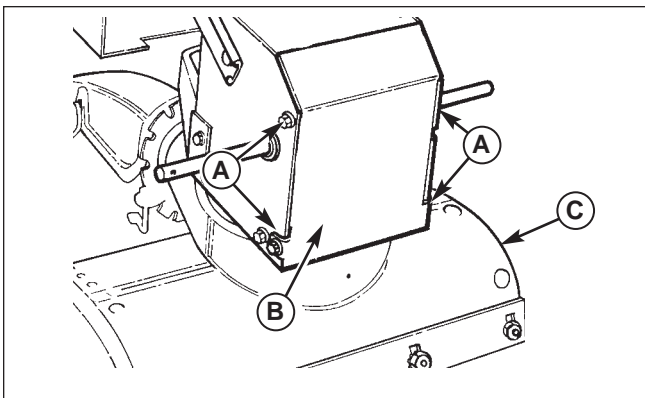

Figure 28. Bottom Cover
2. Loosen the capscrews (A, Figure 28) on each side of the bottom panel (B).
3. Remove the bottom panel (B).